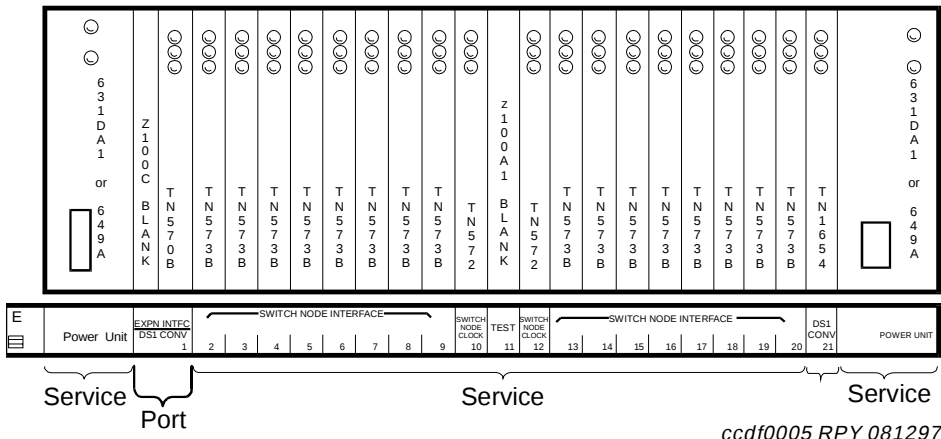

Figure 40. Switch Node Carrier (J58890SA) (Front)
The Switch Node Carrier (SN) (J58890SA) is used in R8r and later only. See Figure 40 for a representative example. The SN can contain one or two switch node clocks, up to 16 Switch Node Interface (SNI) circuit packs, 1 or 2 DS1 converter circuit packs, one EI circuit pack, and 2 AC or DC power units.